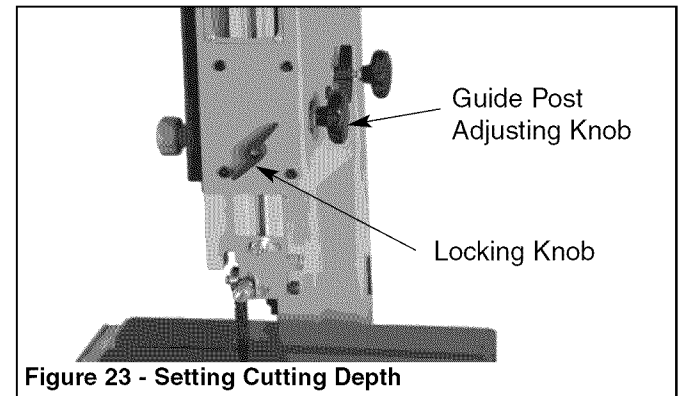

Figure 23 - Setting Cutting Depth
- To adjust this height, loosen the locking knob at the side of the upper wheel housing (see Figure 23).